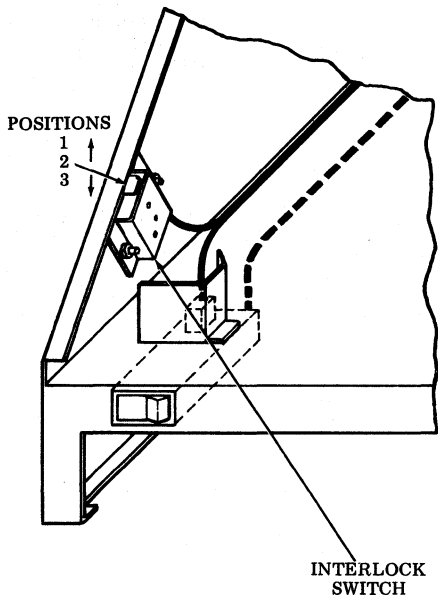
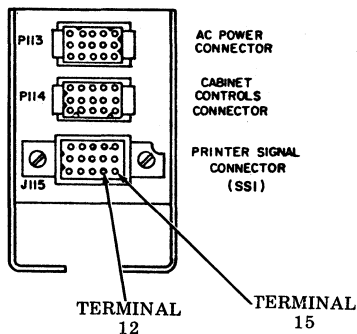

Fig. 2
Fig. 3
2.02 The interlock switch has a three-position activator (Fig. 2). Check for continuity at P114 connector terminals 6 to 7 and 3 to 5 when the activator is lifted to its No. 1 position (maintenance) and held down (audible click) in its No. 3 position. (Fig 3).
2.03 The printer signal connector (SSI) is mounted on a bracket inside the cabinet (Fig. 3). Check for continuity of the SSI cable at J115 connector terminals 12 to 13 and 14 to 15.
2.04 Check for continuity of paper advance switch at P114 connector terminals 3 to 4 when switch is depressed (Fig. 3).
2.05 Check for continuity of lamp in the paper switch at P114 connector terminals 1 to 2 (Fig. 3).